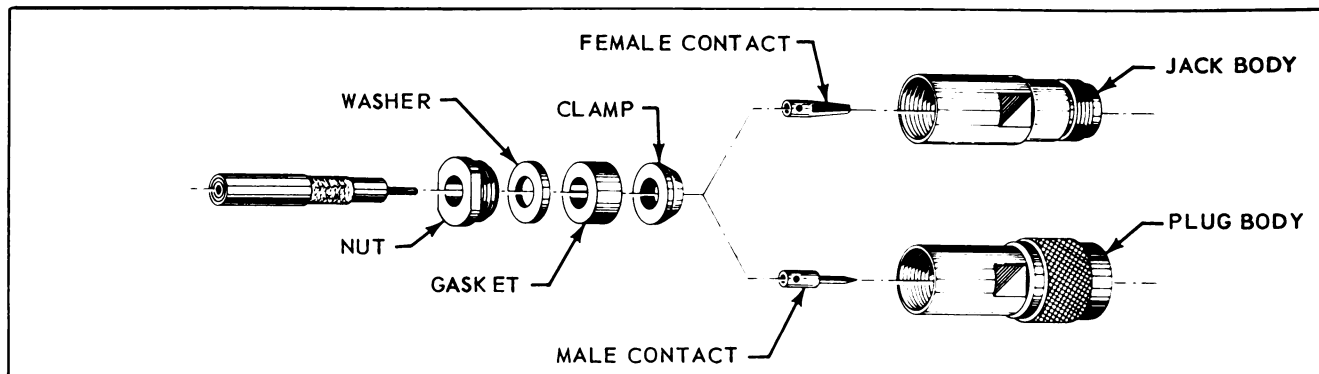

Figure 4-27. Standard N Connectors - Exploded View
a. Standard Version (See Figure 4-27) - consists of a plug or jack body assembled to coaxial cable with nut, washer, gasket and clamp. Plug UG-18B/U and Jack UG-20B/U are typical of this version.
c. Disassemble nut, washer, gasket and clamp from plug or jack body. See Figure 4-27.